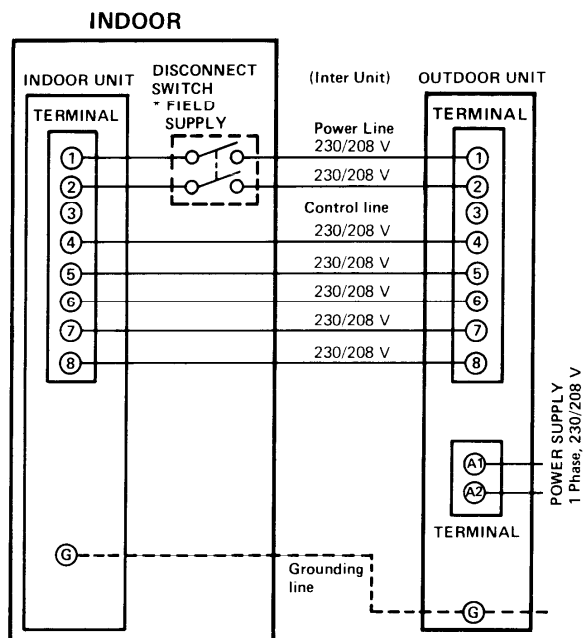
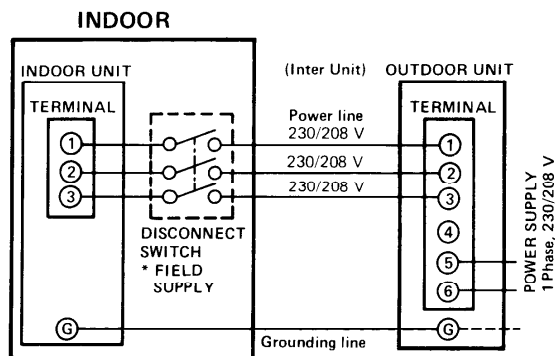

Fig. 21
Fig. 22
- Connect interunit control line and power line per drawing on inside of the panel "C". Fig. 21, Fig. 22.